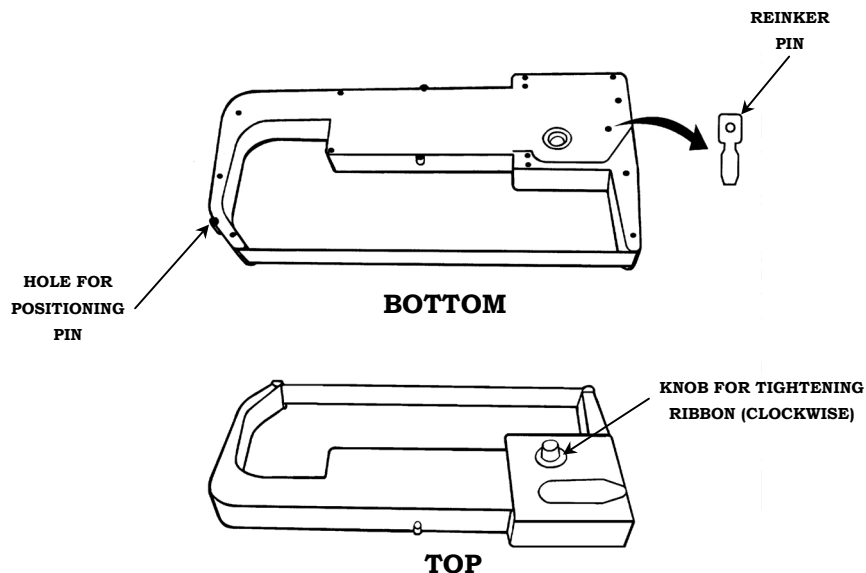

Figure 2-19 Ribbon Cartridge
13. Turn the knurled knob on the new ribbon cartridge *clockwise* to remove any slack in the ribbon (Figure 2-19.)
14. If the new ribbon is equipped with a reinker, be sure to remove the reinker pin before installing. See Figure 2-19.